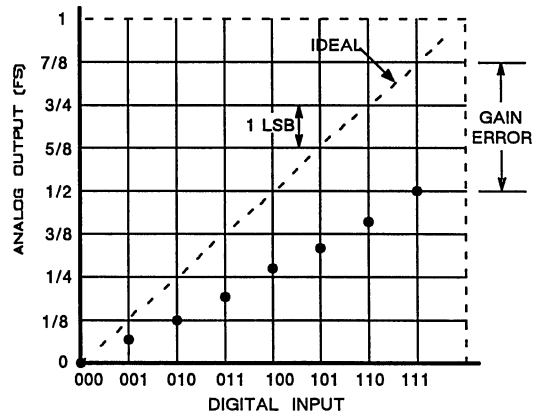

Figure 6. A Gain Error of -3 LSB
**Gain Error.** Figure 6 shows the effect of gain error. In this case, the slope of the transfer function differs from the ideal DAC. Gain error or full-scale error is measured with an all ones input code.